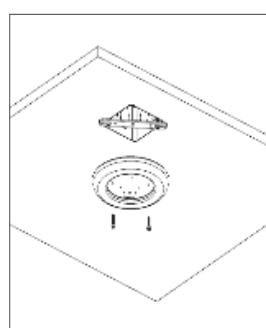

FIGURE 5
F) If the fixture is installed to 3.5" or 4" junction box, align appropriate holes on the fixture to the holes on the mounting bracket (2.75" distance), use 2 of the included screws (M4x20 screws)  to attach the fixture to the mounting bracket. If the fixture is installed to a 2.75" junction box align appropriate holes on the fixture with the holes on the junction box. Use 2 of the included screws (M4x40 screws) to attach the fixture which should be flush with the ceiling. Do not overtighten  screws or fixture will not be flush with the ceiling. (Figure 5)